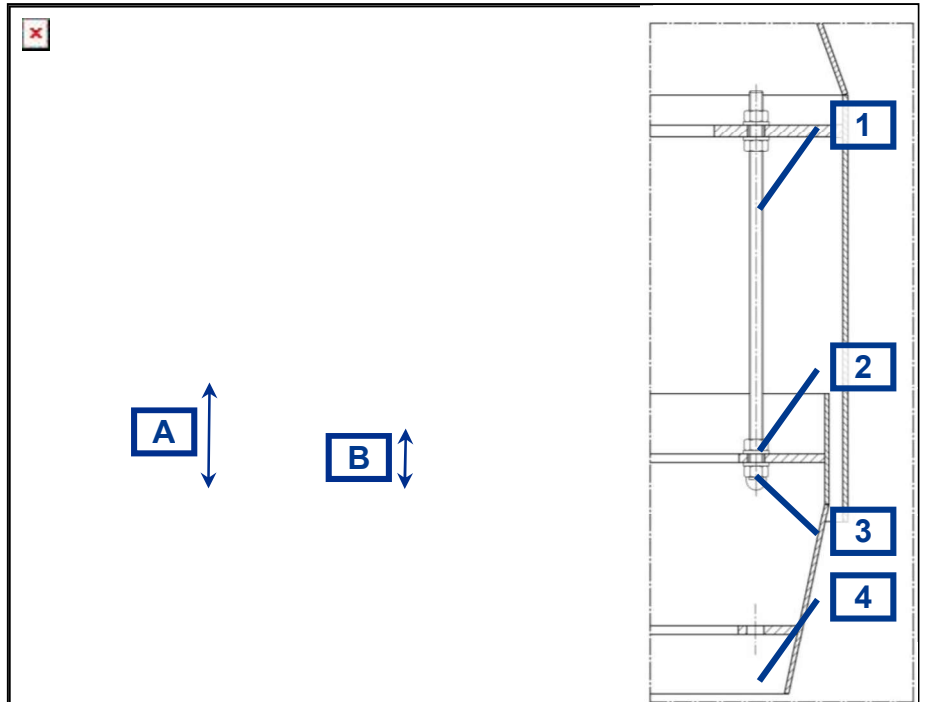

Fig.: 12 Moving the adjusting ring (schematic figure)
1. ▶ Secure the adjusting ring (Fig.: 12/[4]) with a chain hoist.
2. ▶ Release the nuts (Fig.: 12/[2], [3]).
3. ▶ Lift or lower the adjusting ring (Fig.: 12/[4]). Comply with the sizes [A] (max), [B] (min)
5. ▶ Tighten the nuts (Fig.: 12/[2], [3]).